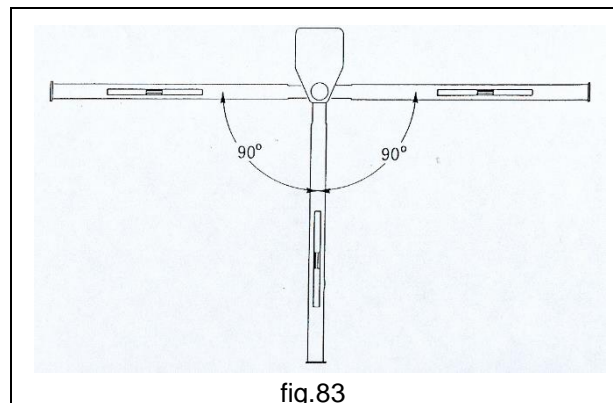

fig.83
2. Carry out the check of planarity of the arm with the help of a level. Carry out such a check rotating the arm by 90° to the left and to the right (fig.83).